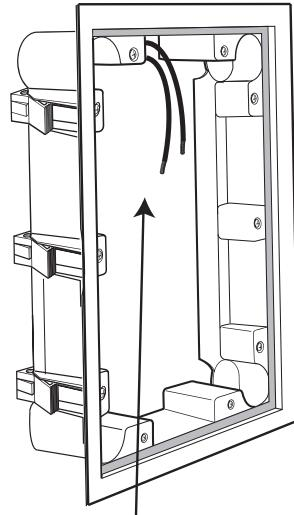

**Figure 7: Cut Opening in Drywall**
9. After confirming the correct location, cut the template hole opening, as shown in Figure 7. Use a carpenter's level to ensure the opening is level.